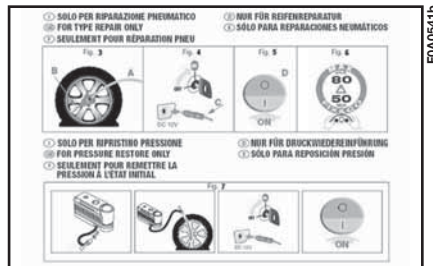

fig. 16b
– instruction brochure **fig. 16b**, to be used for prompt and proper use of the quick repair kit and to be then handed to the personnel charged with handling the treated tyre